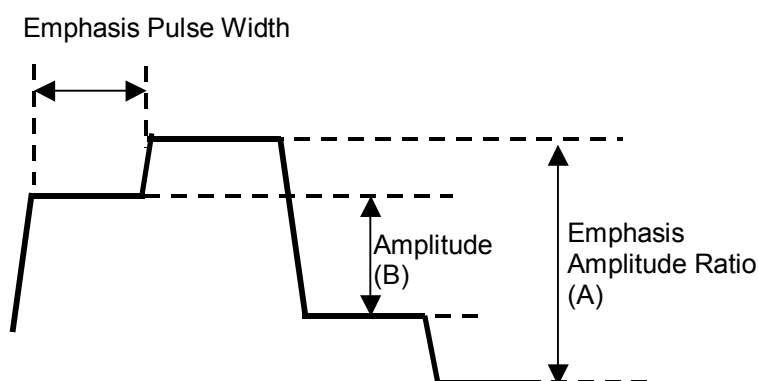

Fig. 4.3.4-4 Emphasis output setting image (if positive)
- [4] Set the Emphasis Amplitude Ratio for both Data, and XData. The setting range varies with the Amplitude, External ATT Factor, and installed data output options. Pressing the +/- button will show the output waveforms like the images in Fig. 4.3.4-3 and Fig. 4.3.4-4. The Emphasis Amplitude Ratio calculation is displayed based on the following equation.